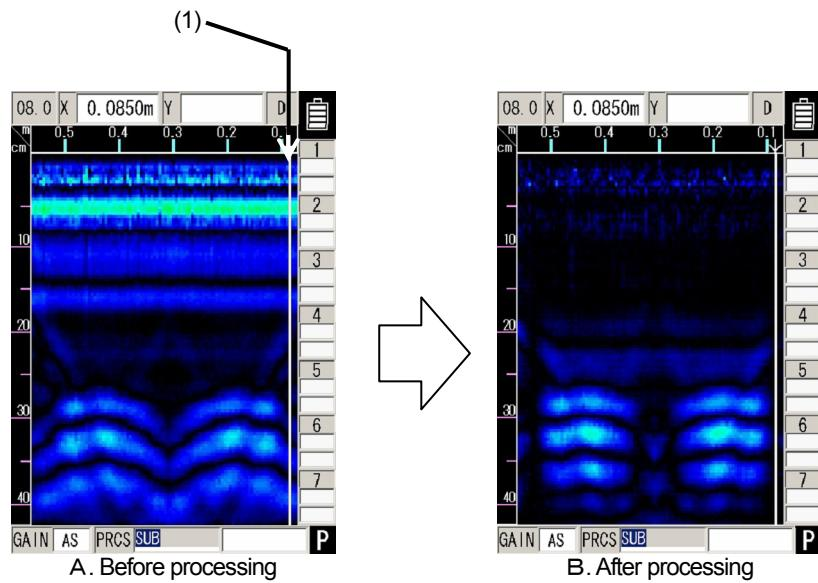

Figure 3-16 Deduction processing
This processing is used to remove the strip reflected waves located at the deep area of 20cm and more on the scan result after a scan as shown in Figure 3-16. Perform the following steps to use this processing.
- (2) Set **SUB** to the **PROC** by pressing the cursor keys **▲▼**.
- (3) Move the cursor to the area not showing any detected objects by pressing the cursor keys **◀▶**.
(Refer to Figure 3-16 A (1).)
- (4) Press the **[5] ENTER** key. Then the deduction processing is performed by using the reflected wave at the cursor position. The marker **↓** is displayed at the cursor position in the distance gauge. (Refer to Figure 3-16 B.)
- (5) To exit from the image processing mode, press the **[6] PRCS** key again.